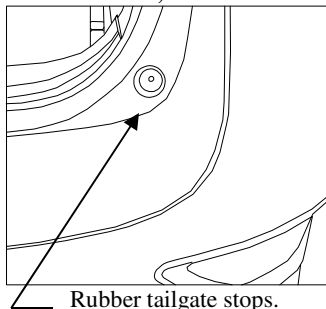

Figure 2.
- Open tail gate. Remove (2) rubber tailgate stops. See Figure 2.